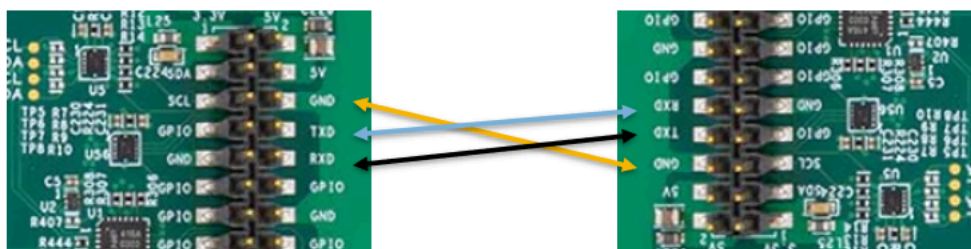

Figure 199. Connection of two i.MX 8MP boards
**Preparation:** Connect the serial ports on the two boards, as shown in Figure 199.